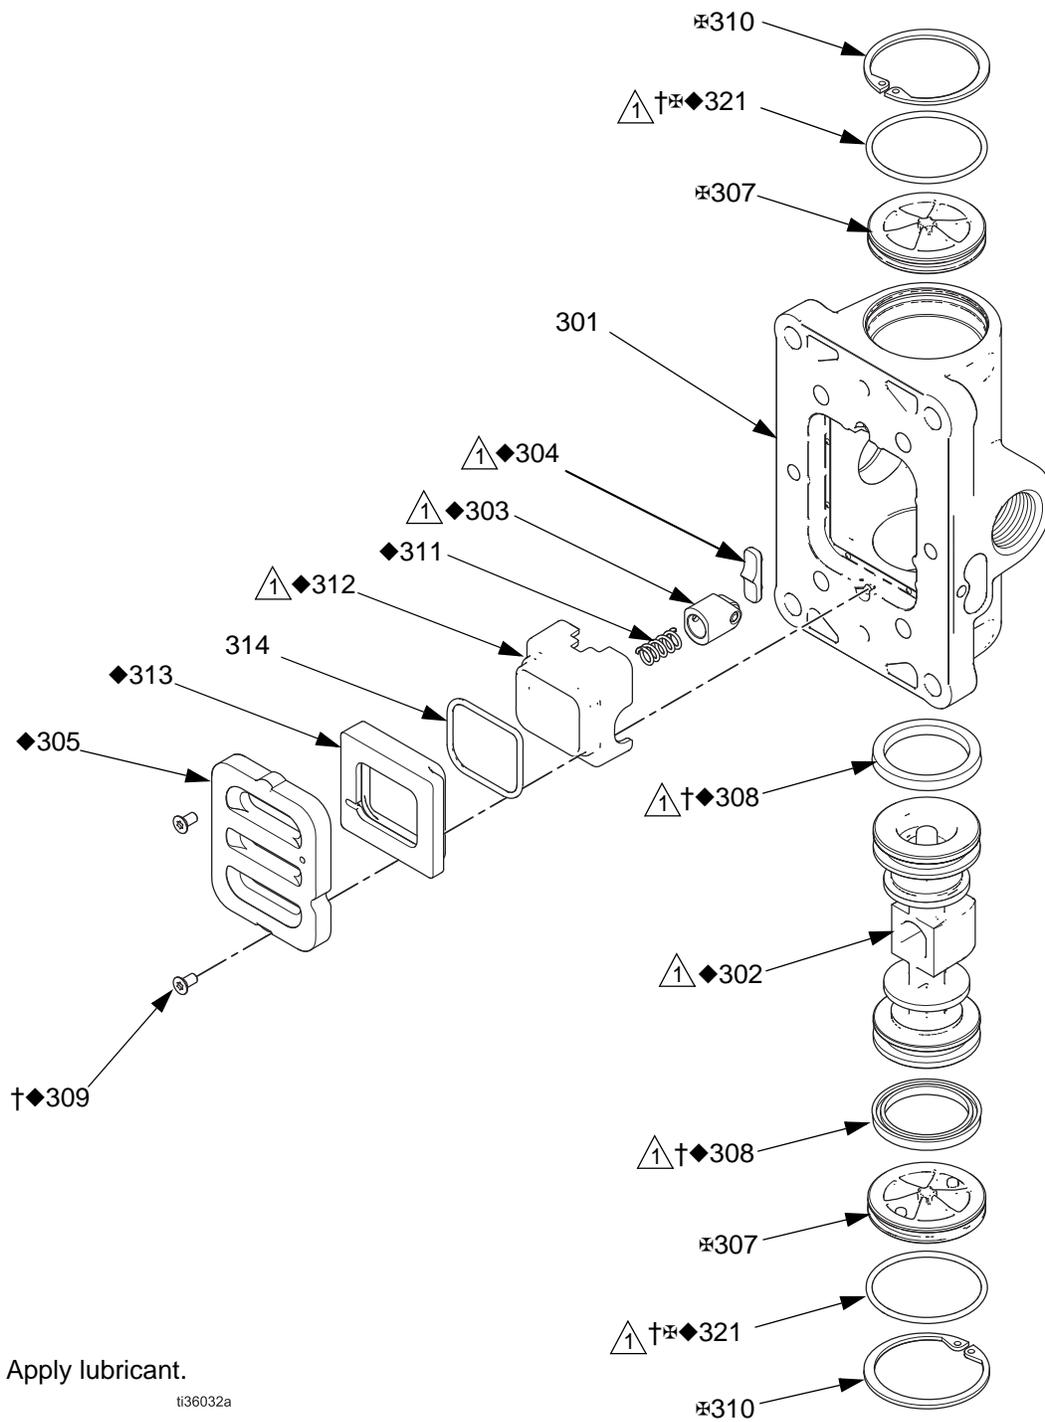
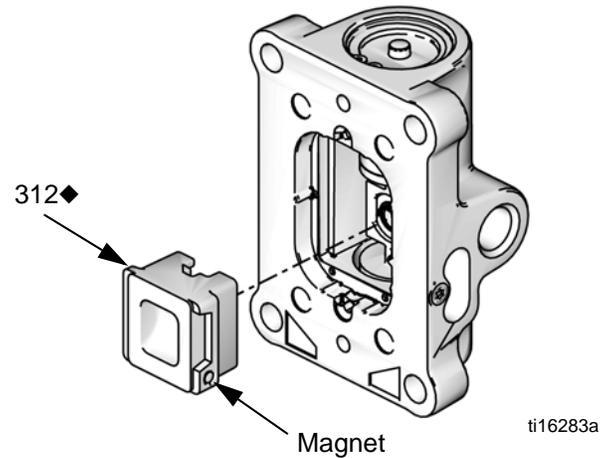

FIG. 6
FIG. 8
Use FIG. 6 and the following table to identify the kits needed for replacements:
2. See FIG. 6. Use a T10 star screwdriver to remove two screws (309†♦). Remove the valve plate (305♦), cup (312♦), and spring (311♦).
3. See FIG. 6. Remove the snap ring (310♦⌘) from each end. Use the piston (302♦) to push the end caps (307⌘) out of the ends. Remove end cap o-rings (306†⌘♦).
1. See FIG. 6. Lubricate detent cam (304♦) and install into housing (301).
3. See FIG. 6. Lubricate both ends of the piston (302♦) and install it in the housing (301).
5. Lubricate new o-rings (306†*♦) and install on the end caps (307*). Install the end caps into the housing (301).
7. Install the spring (311♦). Lubricate and install the pneumatic valve cup (312♦), see FIG. 8. Align the small round magnet with the pneumatic inlet.